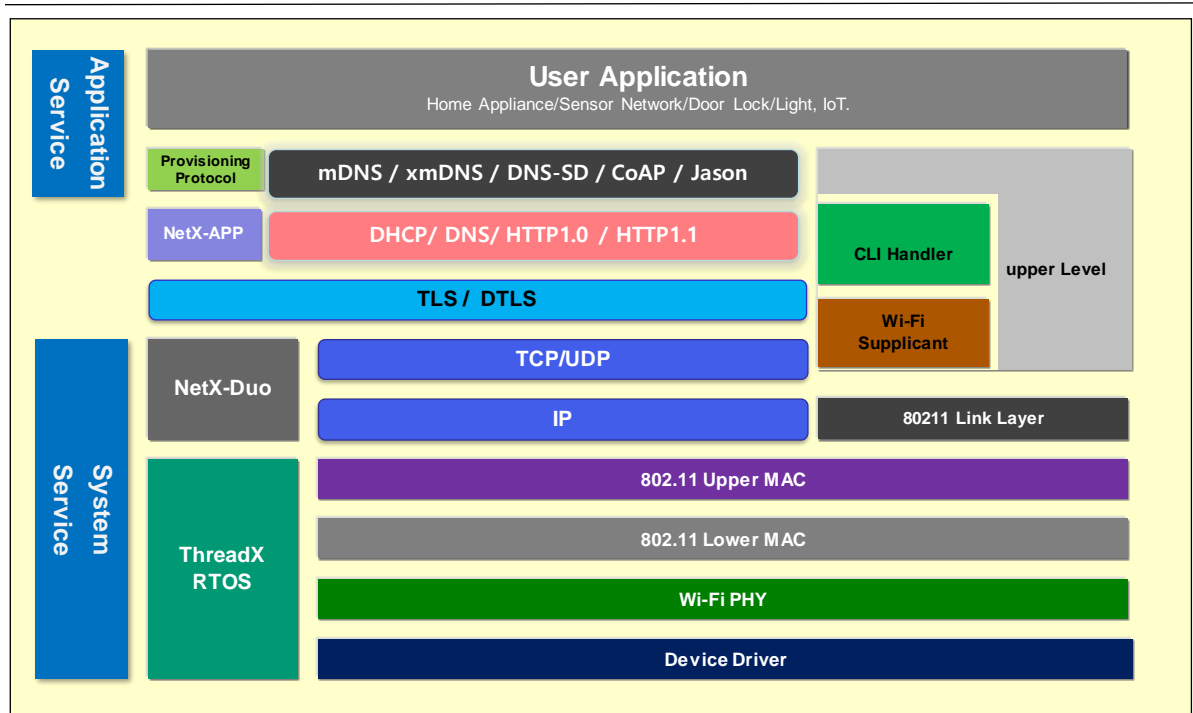

Figure 3: Software Block Diagram
Figure 3 shows the DA16200 SoC software (SW) block diagram.